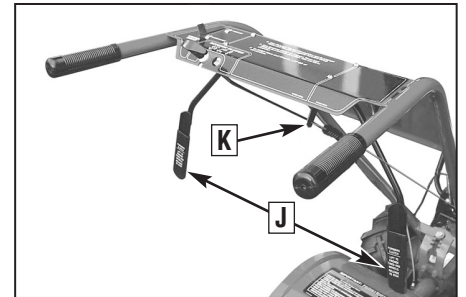

Figure 2-7: Forward Clutch Control levers (J). Forward clutch control linkage (K).
1. Remove any fasteners (rubber bands, tape, etc.) that may secure the Forward Clutch Control levers (J, Figure 2-7) to the handlebar.
2. The forward clutch control cable (with attached spring) is hanging loosely near the right-side wheel. Being careful not to kink or stretch the cable, insert the z-connector (L, Figure 2-8 - end of the spring) into the hole at the end of the forward clutch control linkage (K, Figure 2-7).